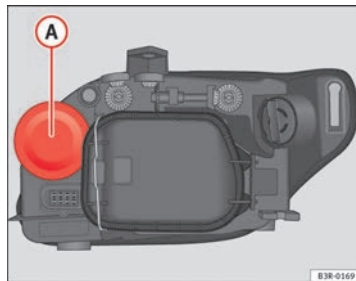

Fig. 208 Main beam headlights
- Pull up on the rubber cover **A** ⇒ Fig. 208 to remove it.